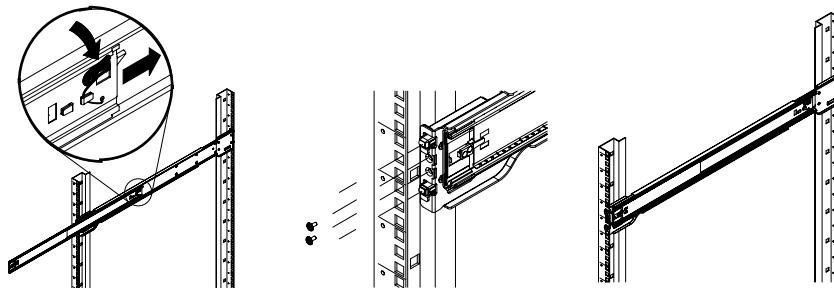

Figure 2-3 Outer Rack Rail Assembly/Placement Example
2. Press up on the locking tab at the rear end of the middle rail and push the middle rail back into the outer rail. See the placement example in Figure 2-3.